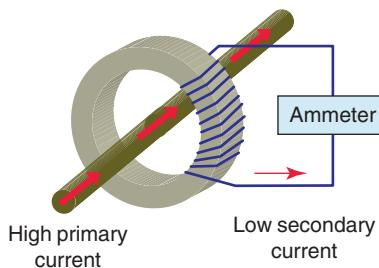

Figure 3-37 Current transformer.
A **current transformer (CT)** is a type of instrument transformer that is designed to provide a current in its **secondary** that is accurately **proportional** to the current flowing in its **primary**. Current transformers are used when the magnitude of AC currents or voltage exceeds the safe value of current of measuring instruments. Figure 3-37 illustrates how a current transformer operates.